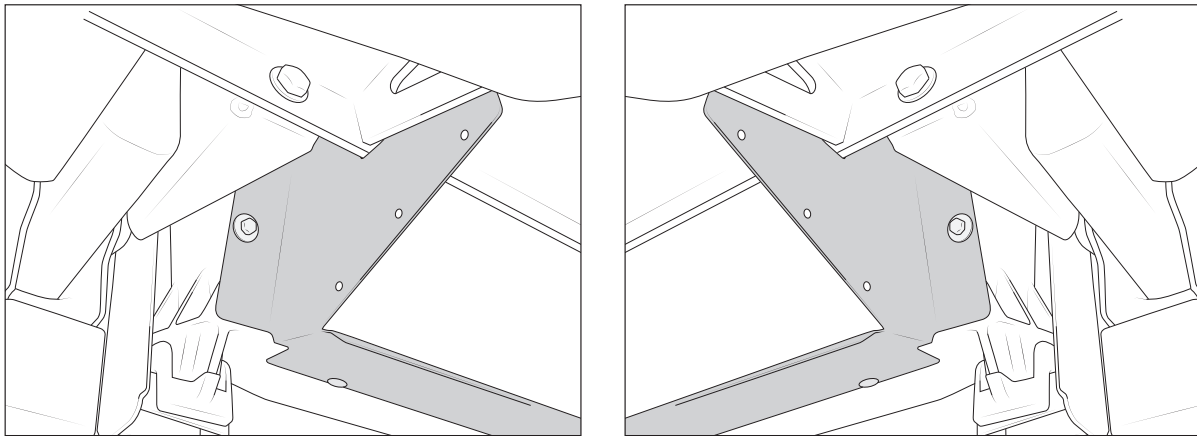

Figure 45
2. Attach AEV intercooler shroud to intercooler at the two lower factory locations using the factory hardware (fig. 45). Use the three factory push pins so secure the shroud along the bottom of the intercooler.